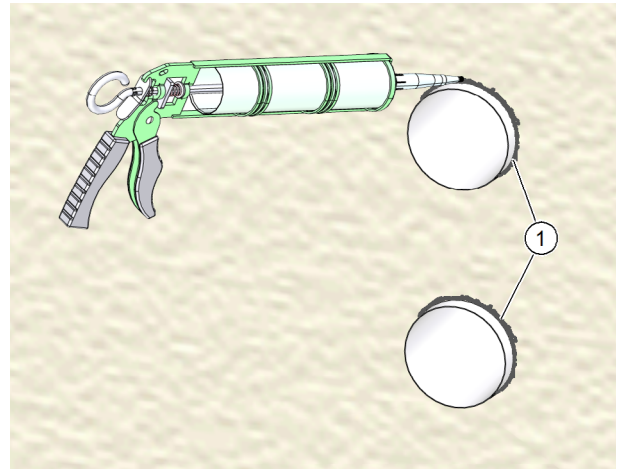

Fig. 24: Sealing ventilation pipes on the external wall
- ▶ Chamfer both pipe breakthrough edges (item 1 in Fig. 24) to roughly 5x45° to create enough space for the sealing joints with low modulus sealant.